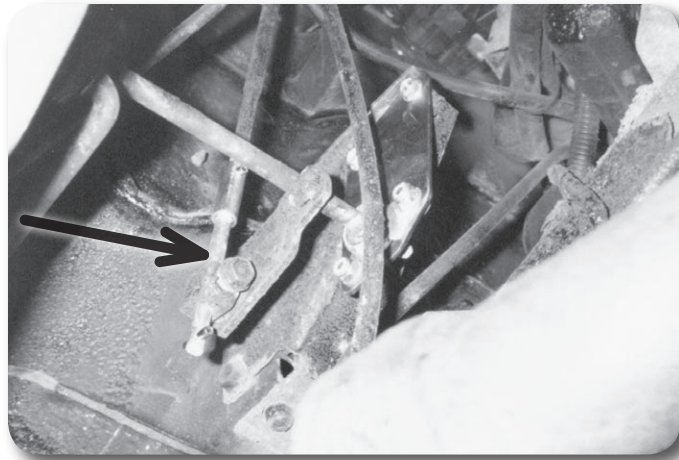

Figure 8
39. Install the upper shift linkage to the pivot assembly (Fig. 8).